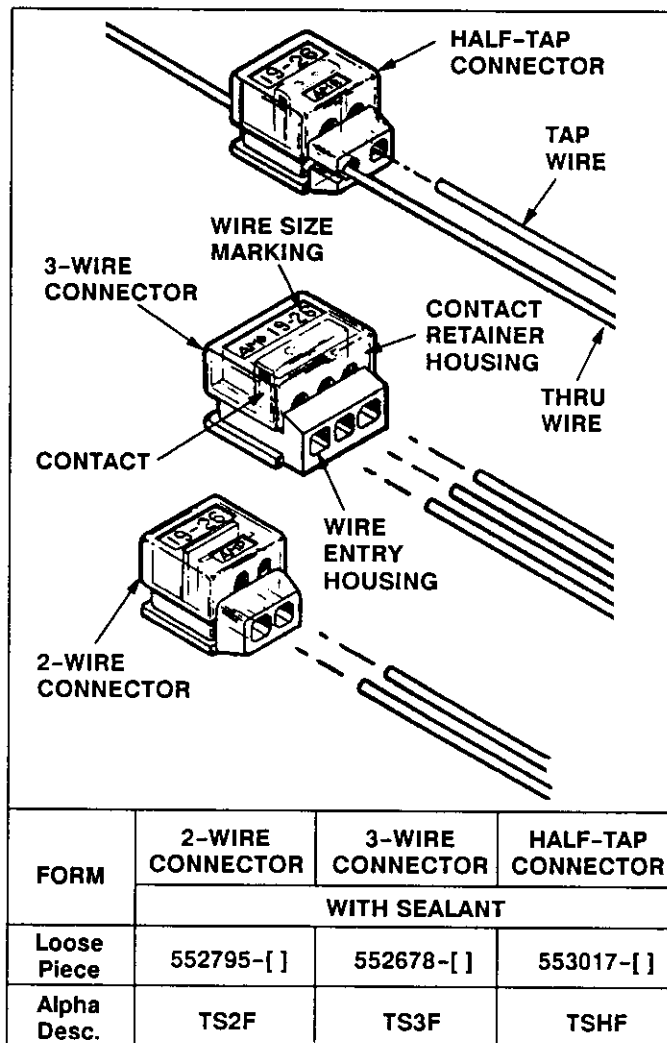

Fig. 1
This Instruction Sheet (IS) covers the application of AMP Tel-Splice Connectors 552795-[], 552678-[], and 553017-[] shown in Figure 1. Read this sheet thoroughly before applying any connectors.
For half-tap connectors, place the through wire into the slot of the connector at the desired tap location. Make sure the through wire is fully contained in the slot. Insert the tap wire into the wire hole until it bottoms in the wire entry housing. See Figure 1.